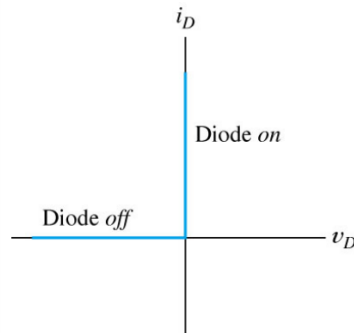

Fig.16: Ideal diode characteristics
- The resulting equivalent circuit is naturally called the piecewise-linear equivalent circuit. It should be obvious from Fig. 16 that the straight-line segments do not result in an exact duplication of the actual